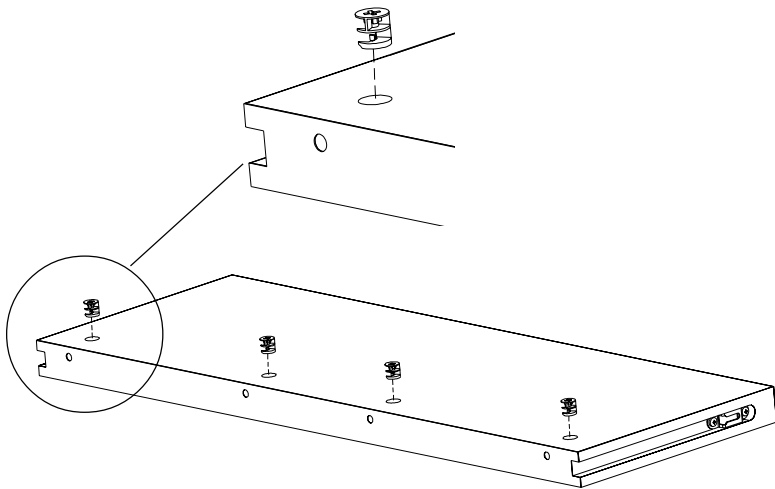

FIGURE 3
Lay shelf down with holes facing up as shown in **FIGURE 3**. Install minifix cams (EE) into each hole. Install bolts (FF) into the back panel as shown in **FIGURE 4**.